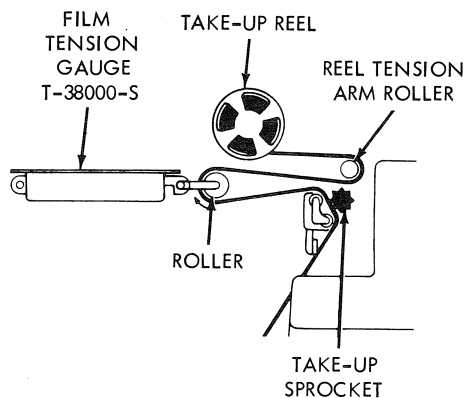

Figure 3-39. TAKE-UP CLUTCH FILM TENSION
8. Take-up Clutch Film Tension (Figure 3-39)